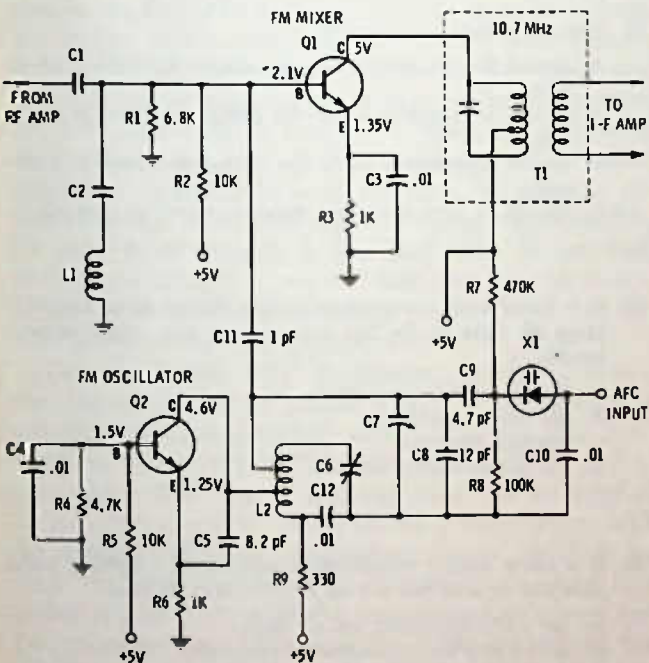

Fig. 13-20. Circuit for Questions 16 through 22.
16. In Fig. 13-20 is an fm mixer and oscillator circuit using separate transistors for the two functions. The oscillator signal is coupled into the mixer stage through C11. The oscillator itself is a "grounded base" circuit with feedback through C5 between the collector and emitter of Q2. In this circuit the oscillator coil is
17. The oscillator transistor in Fig. 13-20
18. X1 in Fig. 13-20 is used to
19. The purpose of R7 and R8 in Fig. 13-20 is to
20. In Fig. 13-20, the purpose of C2-L1 is
21. If C4 shorted in Fig. 13-20, it would result in
22. In Fig. 13-20, if R1 were to open, it would result in